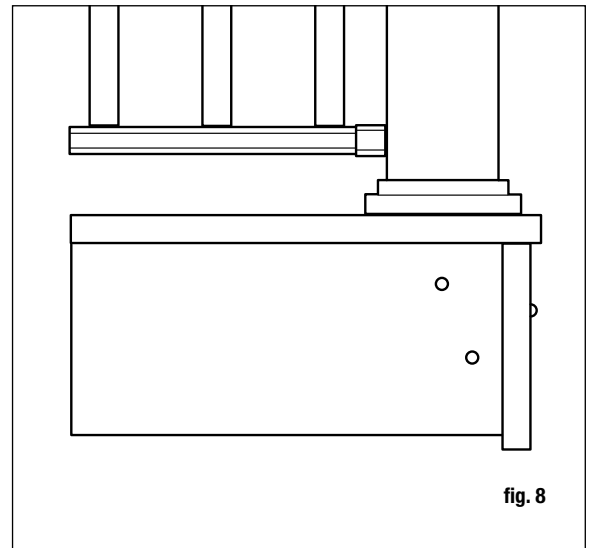

fig. 8
Step 3: Position, plumb with a level, and clamp the railing post on the interior face of the joist. Plumb again. The 4x4 railing post should be bolted to the inside of the joist using two 1/2" x 6" galvanized carriage bolts. Corner posts use a third carriage bolt inserted through the adjacent joist (fig. 8).
Step 3: Position, plumb with a level, and clamp the stair railing post on the interior face of the stringer. Plumb again. The 4x4 stair railing post should be bolted to the inside of the stringer using two 1/2" x 6" galvanized carriage bolts. Corner posts use a third carriage bolt inserted through the adjacent joist (fig. 8). Ground-level posts should be set in concrete.